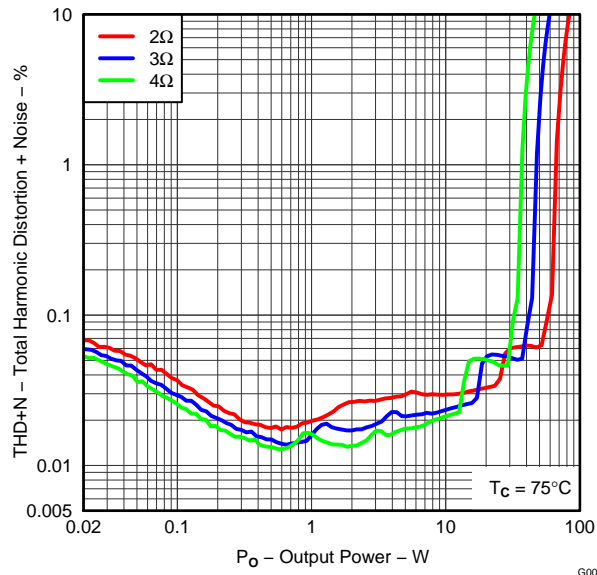

Figure 20. Total Harmonic Distortion + Noise vs Output Power
capacitors and differential LC filter as shown in Figure 20.
- Pins 29, 30, 31, 36, 37, 38 - Power supply pins to half-bridges A, B, C, and D. A and B form a full-bridge and C and D form another full-bridge. A 470- $\mu$ F bulk capacitor is recommended for each full-bridge power pins. Two 0.22- $\mu$ F decoupling capacitors are placed on each full-bridge power pins. See Figure 20 for details.